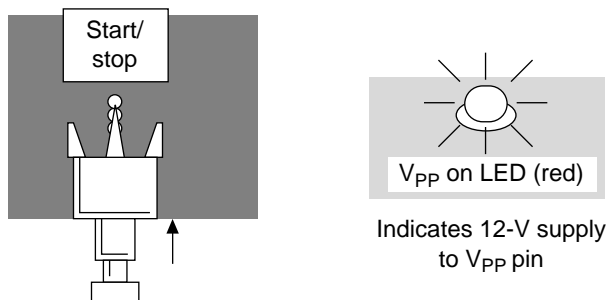

Figure 4.9 Start Programming Operation
- b. Enter No (N) to select user program mode.
5. Press the adapter board's transfer switch to supply 12 V to the Vpp pin. The adapter board's Vpp on LED (red) lights at this time. The F-ZTAT microcomputer goes into user program mode (figure 4.9).